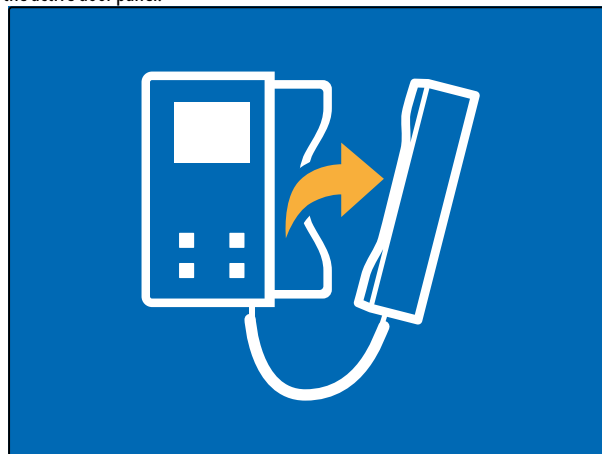
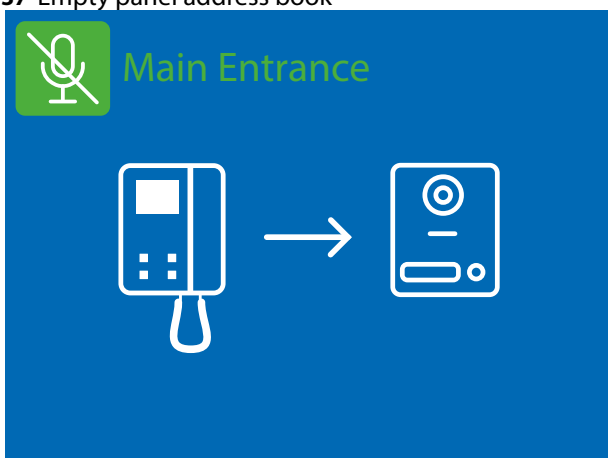

Fig. 38 Pick up the handset warning
Fig. 39 Initialising camera recall
- If the display is switched off, tap on it first then press the  button to enable the privacy service (Fig. 38). The relevant LED illuminates.
- To disable the service proceed again as above (Fig. 38)
- If the handset is on its cradle, the display shows the warning to pick up the handset (Fig. 38) then the camera recall initialising screen (Fig. 39).
* If the panel address book includes one door panel only, tapping on the icon launches immediately the call to that door (Fig. 38 on page 24).